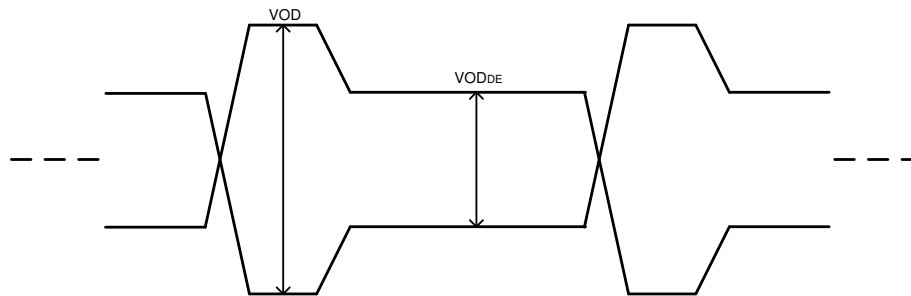

Figure 13. VOD and VOD_{DE} Levels
- (1) The output drivers are capable of providing higher VOD and DEM levels (max settings are 7). For more VOD and de-emphasis levels, refer to Table 10.
- (2) See Figure 13.